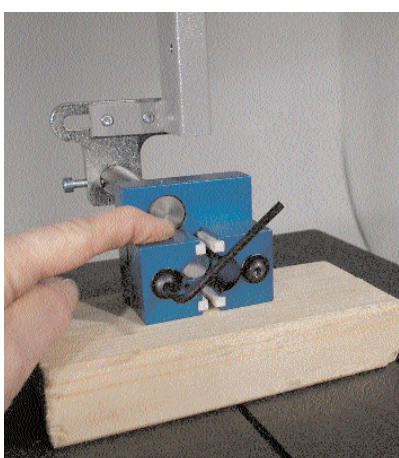

Fig. 24
6. Because the Surround Guide may increase the resaw height of your band saw, it may not reach the table of the band saw. To square the Surround Guide to the table, place a piece of parallel wood or something similar on the table and bring the Surround Guide down slowly so that it touches the block. Then tighten the Allen screw. See Fig 24.